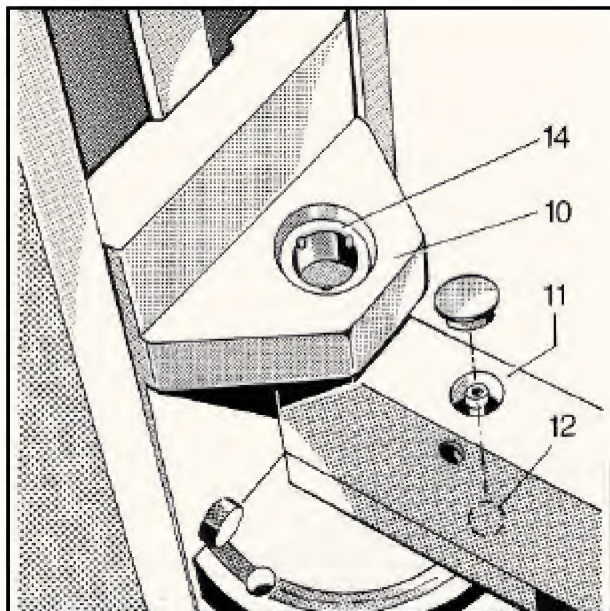

Fig. 4
Remove the bolt from the tube support arm (Fig.4/item 10). Put the set screw (item 11) with steel ball inserted (item 12) into the vertical carriage, slide in disk (item 13), introduce bolt (item 10). Insert bushing (item 14), adjust in center of drilling and screw up. Adjust function of detent by tightening screw (Fig. 4/item 11). Turning the screw (to the right) increases pressure of the cup springs and detent uncatches harder.